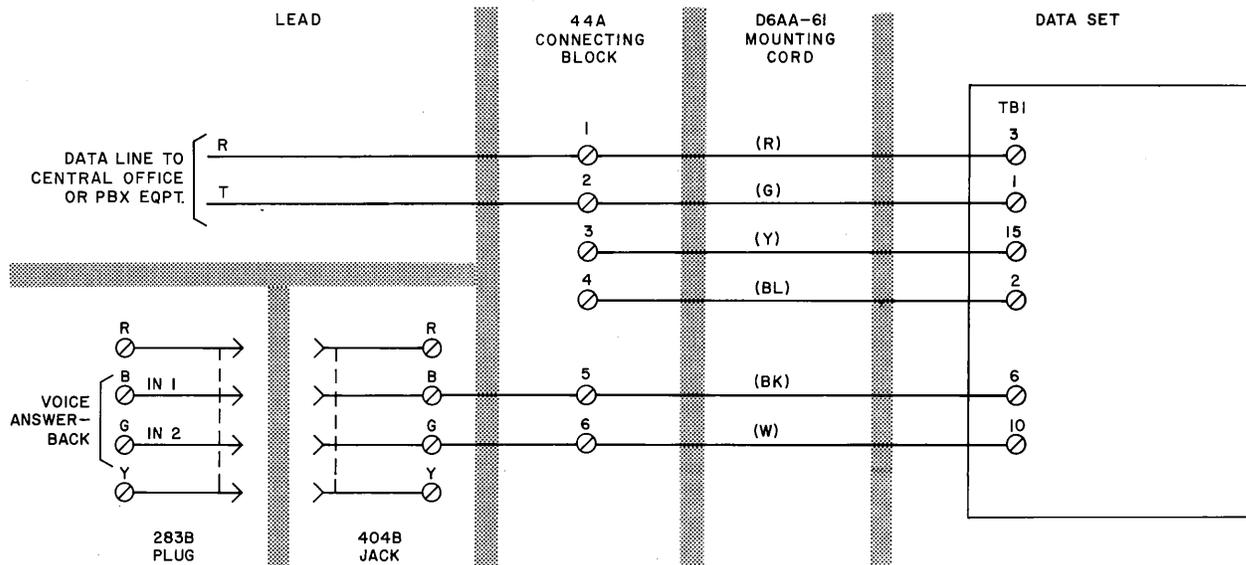

Fig. 8—Data Set 401J3 or 401J5, Connections (D6AA-61 Cord)
- (c) The arrangement for Data Sets 401J3 or 401J5 is shown in Fig. 8.